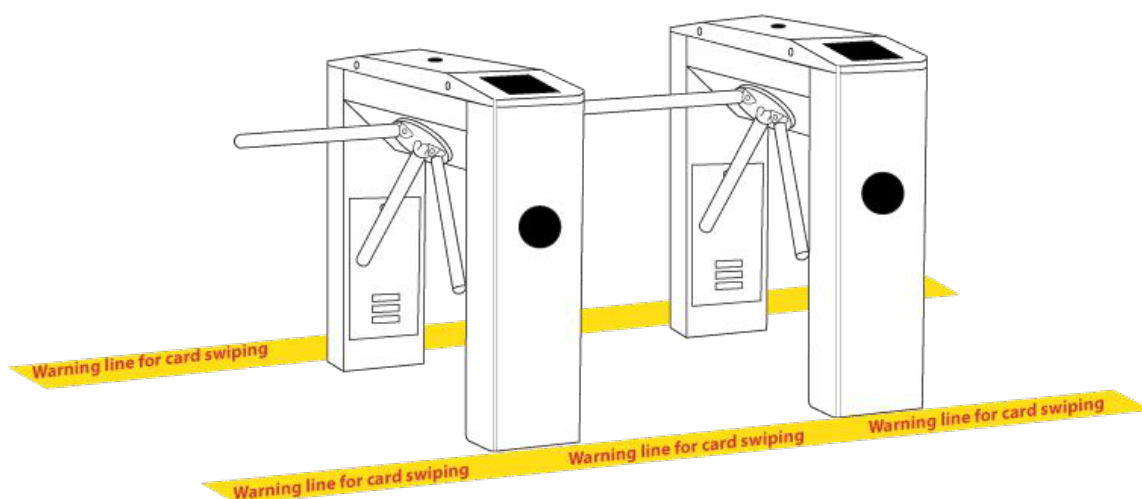

Figure 3.2
3. Setting a warning line for card swiping (see figure 3.2). A warning line is suggested to prompt user to swipe cards in a distance, which would greatly reduce the probability of equipment failure caused by improper used.